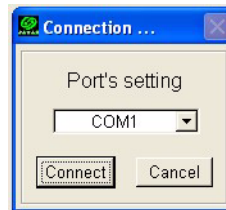

Figure 2-22. Connection to Modem-JNS
3. Open Modem-JNS and select the COM port the receiver is connected to (Figure 2-22).